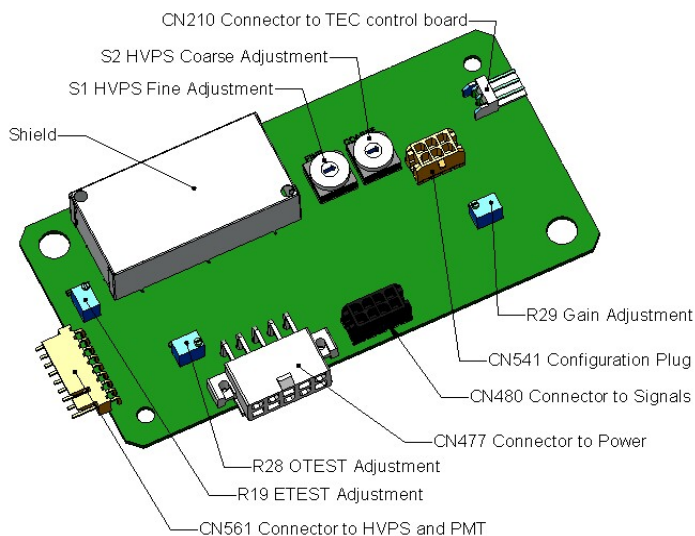

Figure 12-8: Pre-Amplifier Board Layout
4. Locate the following components on the preamplifier board (Figure 12-8):